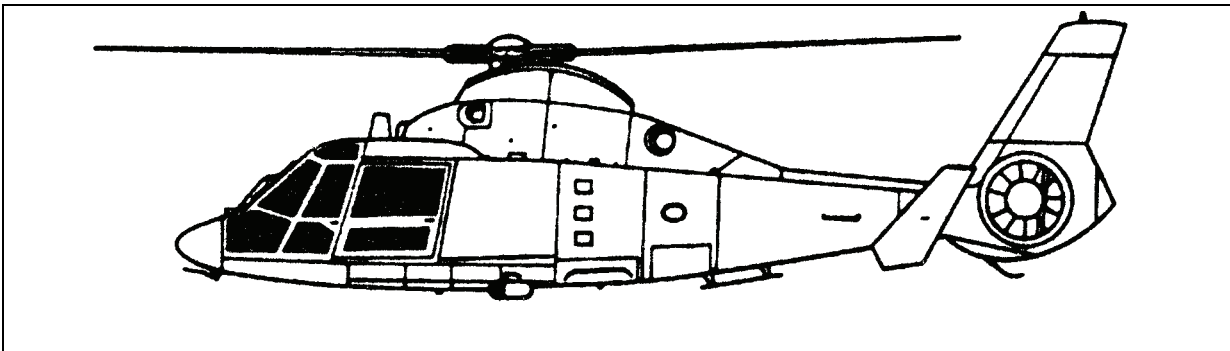

Figure 2-23. H-65A Dolphin
- **HH-65A.** The HH-65A Dolphin (Figure 2-23) is a twin engine, single main rotor helicopter manufactured by Aerospatiale Helicopter Corporation. The primary mission of the HH-65A is search and rescue, but it also has a limited utility capability.